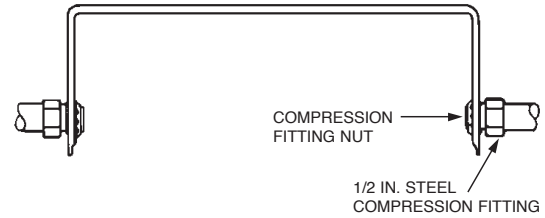

FIGURE 5-22
1. Secure the conduit to the detector bracket using the two 1/2 in. steel compression fittings on the series detector bracket or the single 1/2 in. steel compression fitting on the terminal detector bracket. See Figure 5-22.